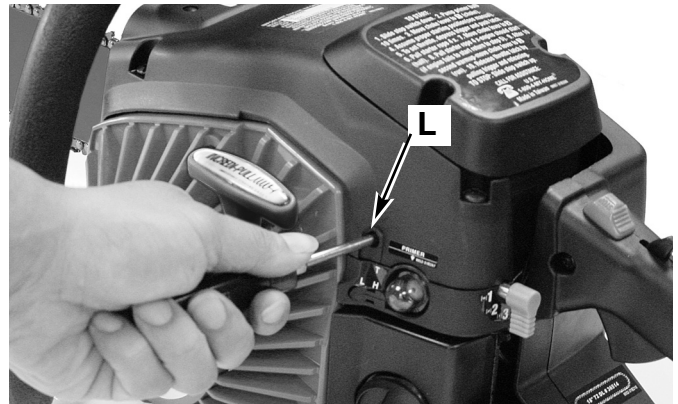
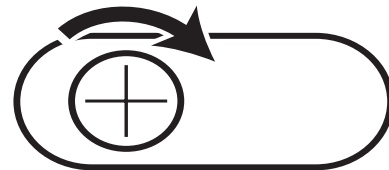

Fig. 8
Fig. 9
6. Then move the **red choke lever** (H) to Position 2, being sure to keep the throttle control locked. Hold saw firmly and pull rope until saw starts. This could take 4 more pulls.
7. Let the saw warm up for 10 seconds. Depress and release trigger (F) for idle.
8. Move **red choke lever** (H) to Position 3. If engine fails to start, repeat these instructions. If engine does start, begin chain brake test described on next page.
9. If unit idles roughly, there is an idle adjustment access hole (L)(Fig. 8). Using a Phillips or slotted screwdriver, turn screw 1/4 to 1/2 turn clockwise (to the right). Unit should then idle properly (Fig. 9).